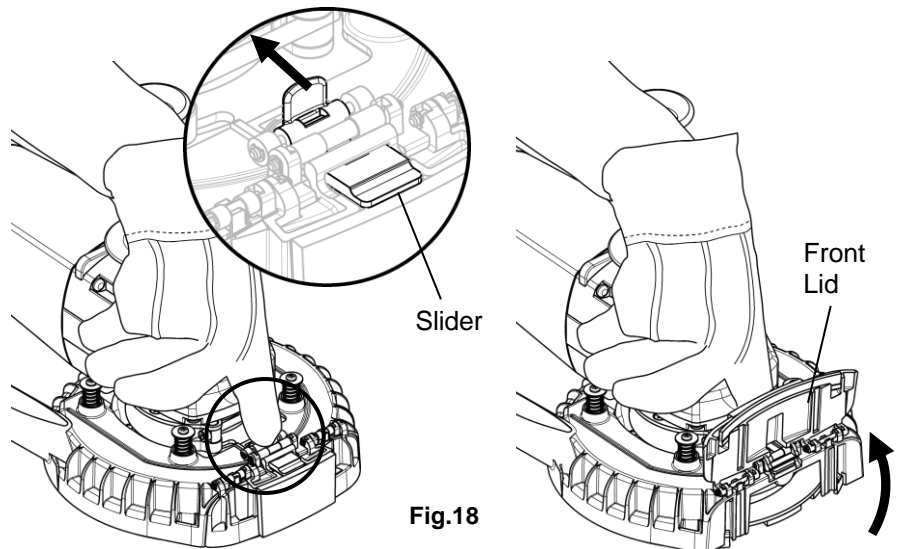

Fig.18
3. Open the Front Lid by pulling the Slider. (Fig.18)